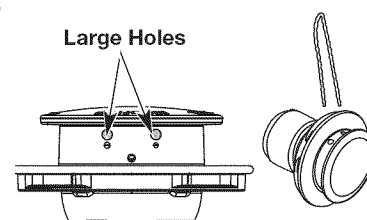

Fig. 27
- Insert both ends of your line through the large holes in the side of the cutting head (Fig. 27).